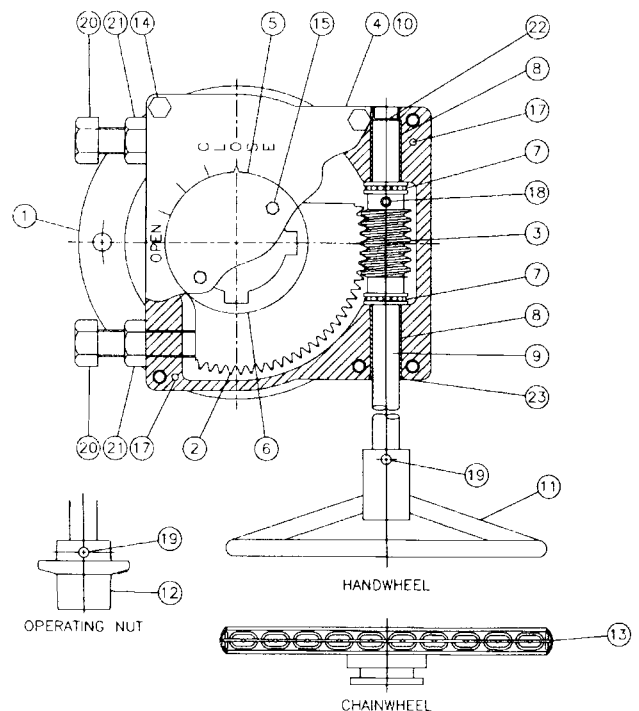

FIGURE 13. GEAR ACTUATOR CONSTRUCTION
GEAR ACTUATOR MAINTENANCE: A typical gear actuator is shown in Figure 13 and consists of a worm (3) mounted on an input shaft (9). The worm engages a segment gear (2). When the worm is turned, it drives the segment gear through 90° of rotation. The rotation of the segment gear is displayed by the top indicator (5). The gears are lubricated with EP2 grease in a cast iron housing (1). The open and closed positions of the segment gear (2) are controlled by the end position stop bolts (20). The stops can be adjusted by loosening the lock nut (21) and rotating the bolts (20).